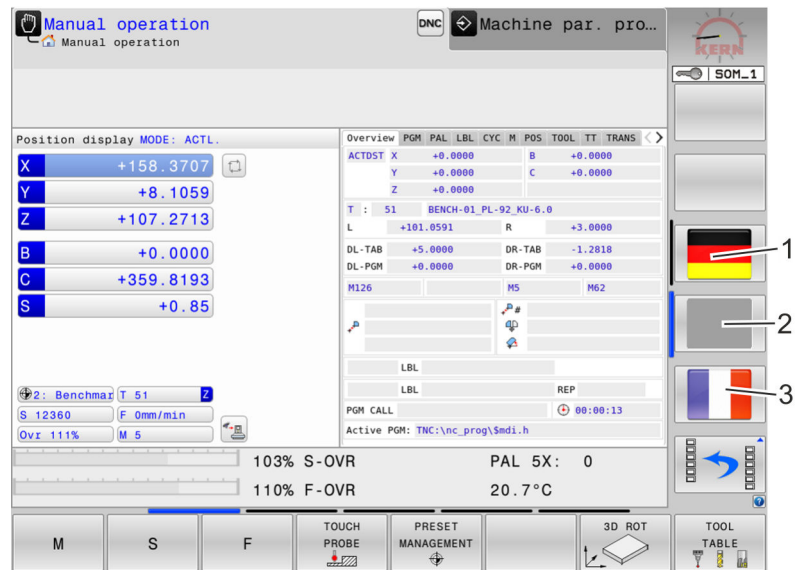

Fig. 79: Language settings
2. Press the softkey for the desired language (Fig. 79/1 – 3).